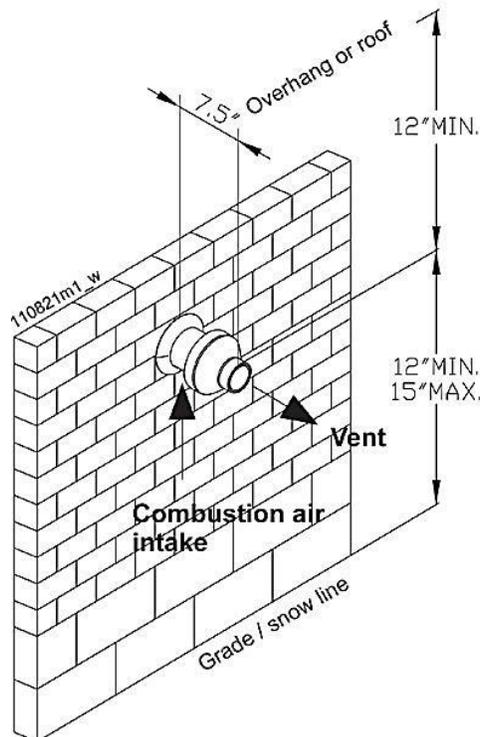
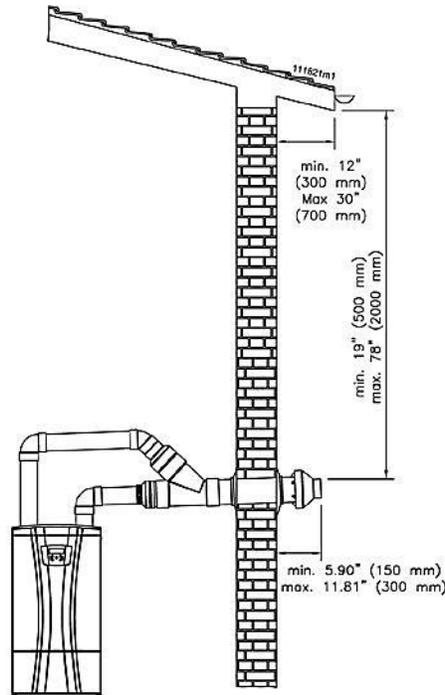

Figure 6-8: Concentric Sidewall Termination Clearances
Figure 6-9: Concentric Sidewall Termination Clearances (Side View)
A concentric vent termination must terminate outside the structure and must be installed as shown in Figure 6-8. The termination opening must be protected from rain, as shown in Figure 6-9.
1. Determine the best location for the termination (see Figures 6-8 and 6-9).
4. Cut one (1) hole 5 inches diameter into the structure to install the termination.
5. Install the concentric vent following the concentric kit manufacturer's instruction. Ensure termination location clearance dimensions are as shown in Figures 6-8 and 6-9.
6. Operate the appliance one (1) heat cycle to ensure combustion air and vent pipes are properly connected to the concentric vent termination connections.